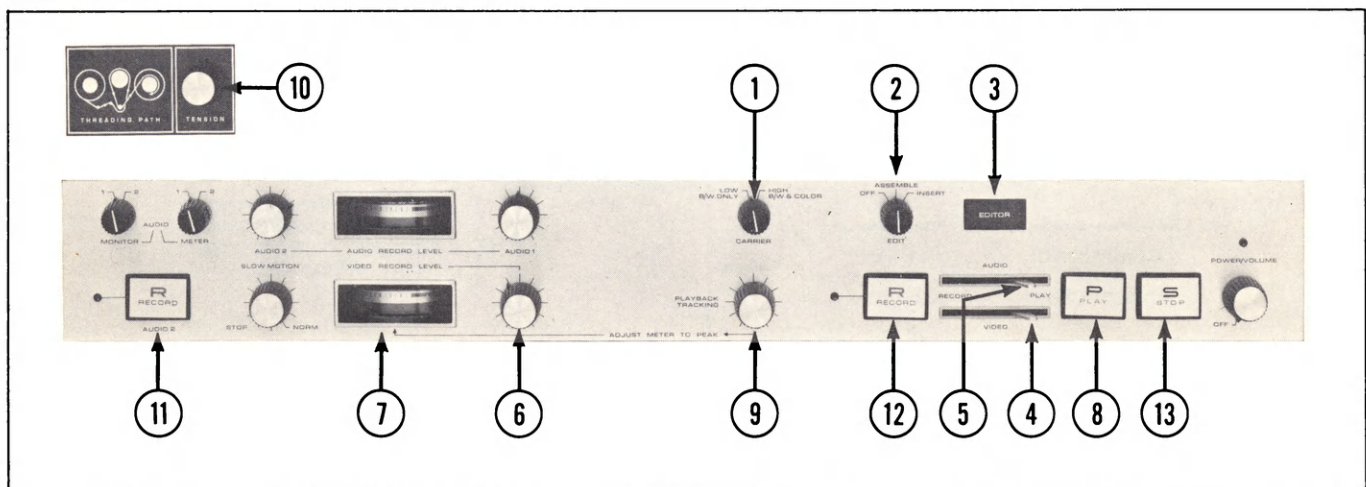

Figure 17 Assemble and Insert Edit Recording Operation
2. Place the Carrier selector (item 1, figure 17) in the position that will correspond to the carrier frequency (High or Low) of the tape being used for the ASSEMBLE EDIT recording.
3. Set the Edit mode selector (item 2, figure 17) to the ASSEMBLE position. The red Editor Indicator (item 3, figure 17) will light at this point.
4. Place the Video (and Audio) Record/Play Lever(s) (item 4 and 5, figure 17) in the left-hand (RECORD) position.
5. Adjust the Video Record Level control (item 6, figure 17) for a 100% indication (during peak white scenes) on the Video Record Level meter (item 7, figure 17).
8. Place the Video (and Audio) Record/Play Lever(s) (item 4 and 5, figure 17) in the right-hand (PLAY) position after the video (and audio) record level(s) have been properly set up.
10. Depress the Play button (item 8, figure 17) to start the PLAY mode and tape movement.
11. There are two methods of adjusting the Playback Tracking control (item 9, figure 17); they are as follows:
- b. "Variable" tracking adjustment — Adjust the control for a maximum indication on the Video Record Level meter (item 7, figure 17) when the edit recording is being made on a tape that was NOT originated on this VPR5800.
12. Adjust the Tension control (item 10, figure 17) for minimum bending or hooking at the top of the picture.
13. Observe the monitor and preview the off-tape video for the point at which the edit is to be made. When the point for the edit appears, place the Video and Audio Record/Play Levers (item 4 and 5, figure 17) in the left-hand (RECORD) position. This action places the recorder in the ASSEMBLE EDIT mode whereby new video plus audio 1 begins recording.
If the Audio 2 channel was set up to be a part of the ASSEMBLE EDIT, the Audio 2 Record button (item 11, figure 17) must be depressed simultaneously with the Main Record button (item 12, figure 17), when the Video and Audio Record/Play Levers (item 4 and 5, figure 17) are placed in the left-hand (RECORD) position.
14. To terminate the ASSEMBLE EDIT recording, depress the Stop button (item 13, figure 17). Place the Video and Audio Record/Play Levers (item 4 and 5, figure 17) to the right-hand (PLAY) position.
2. Place the Carrier selector (item 1, figure 17) in the position that will correspond to the carrier frequency (High or Low) of the tape being used for the INSERT EDIT recording.
3. Set the Edit Mode selector (item 2, figure 17) to the
INSERT position. The red Editor Indicator (item 3, figure 17) will light at this point.
b. "Variable" tracking adjustment — Adjust the control for a maximum indication on the Video Record Level meter (item 7, figure 17) when the edit recording is being made on a tape that was NOT originated on this VPR5800.
13. Observe the monitor and preview the off-tape video for the point at which the edit is to be made. When the point for the edit appears, place the Video and Audio Record/Play Levers (item 4 and 5, figure 17) in the left-hand (RECORD) position. This action places the recorder in the INSERT EDIT mode whereby new video plus audio 1 begins recording.
If the audio 2 channel was set up to be a part of the INSERT EDIT, the Audio 2 Record button (item 11, figure 17) must be depressed simultaneously with the Main Record button (item 12, figure 17), when the Video and
Audio Record/Play Levers (item 4 and 5, figure 17) are placed in the left-hand (RECORD) position.
14. To terminate the INSERT EDIT recording, depress the Stop button (item 13, figure 17). Place the Video and Audio Record/Play Levers (item 4 and 5, figure 17) in the right-hand (PLAY) position.